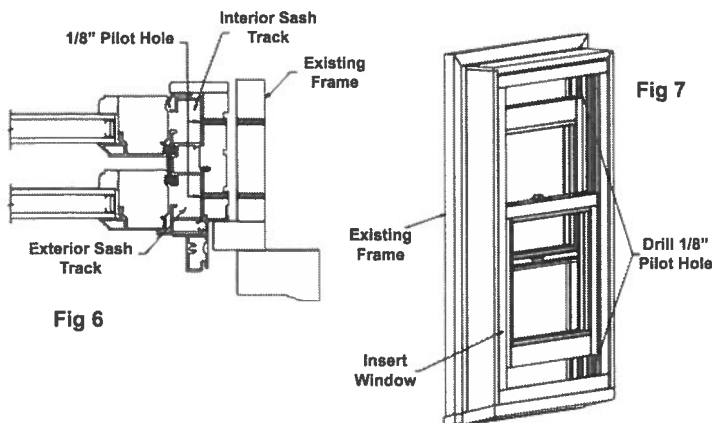

Fig 6
4. At the bottom of the interior sash track, approximately 2-3" above the sill, there is a 1/8" pilot hole through the back of the jambliner pocket in each side jamb. Using this hole as a guide drill a 1/8" hole into the existing frame. See Figure 6.